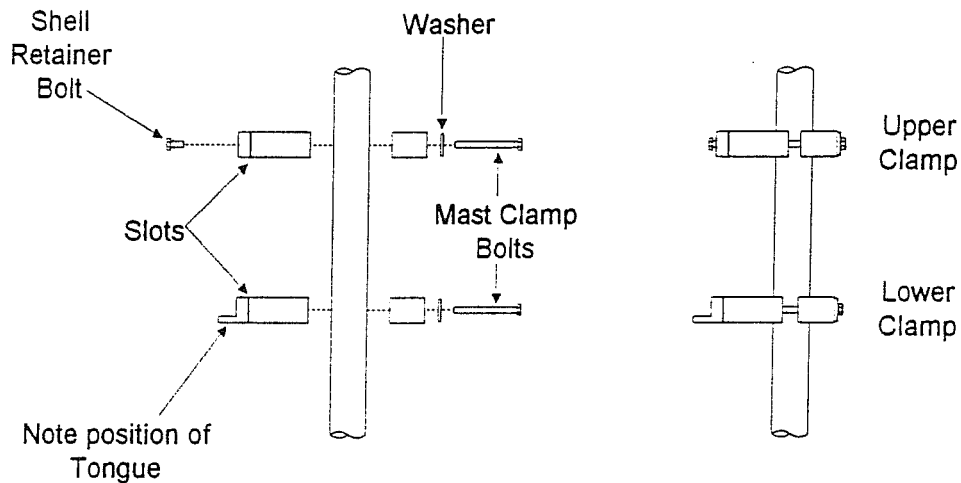

Figure 4-12
1. Locate the upper and lower mast clamps for the data logger. Bolt these loosely to the mast with the clamp tongue in the lower position. At this point they should both slide up and down the mast. See Figure 4-12.